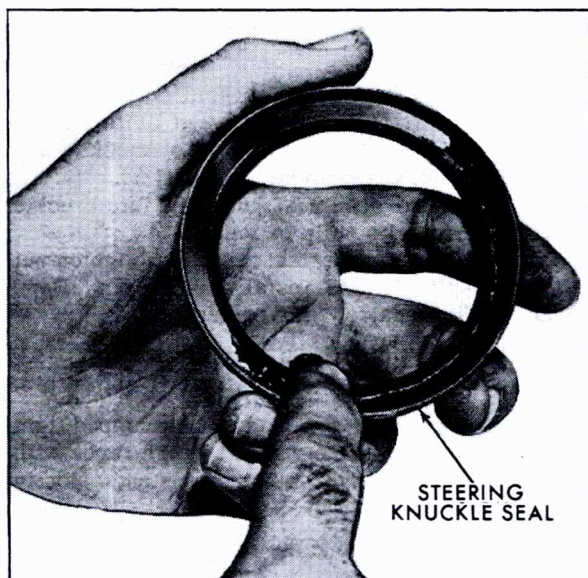

Fig. 3-38 Lubricating Steering Knuckle Seal
2. Using special lubricant provided in bearing package, apply lubricant to hub shaft and both steering knuckle seals, Fig. 3-38.